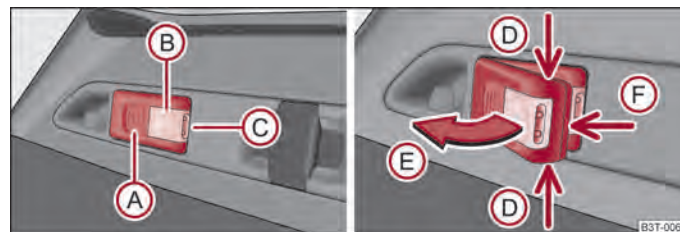

Fig. 46 Removeable lamp
- Lighting of the luggage compartment - it illuminates part (B) ⇒ fig. 46 (the lamp is in the holder),
- Portable lamp - it illuminates part (C) (the lamp has been removed from the holder).
- Grasp the lamp at the points of the arrows (D) ⇒ fig. 46 and swivel it in the direction of arrow (E).
- If the lamp is not switched off, however it is correctly inserted in the holder, the bulbs in the front part **(C)** ⇒ fig. 46 of the lamp are automatically switched off.
- Lever off the cover of the rechargeable batteries with a narrow and pointed object at the point of the lock-off clips **(F)** ⇒ fig. 46.